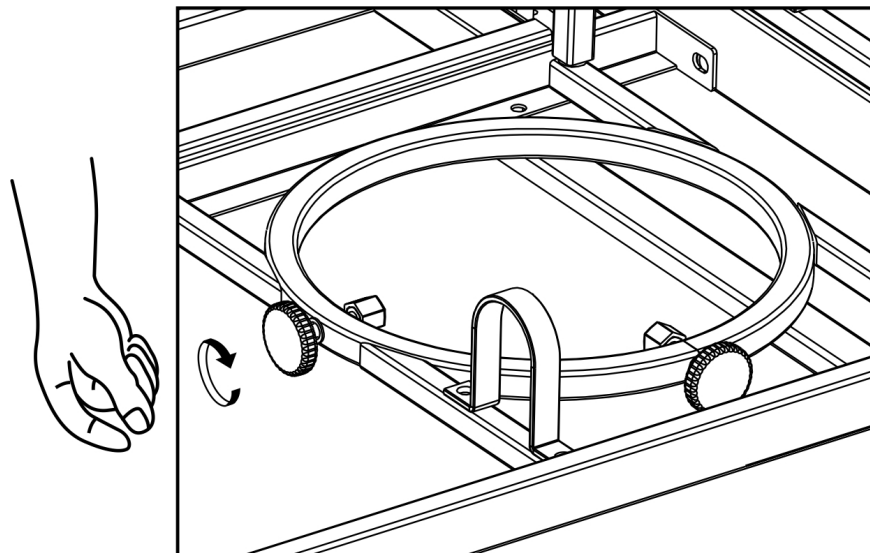

Figure 7
6. Tighten threaded knobs (L) found on tank tray (Figure 7) so that the LP tank cannot move from side to side. Do not remove plastic cap from end of threaded section.